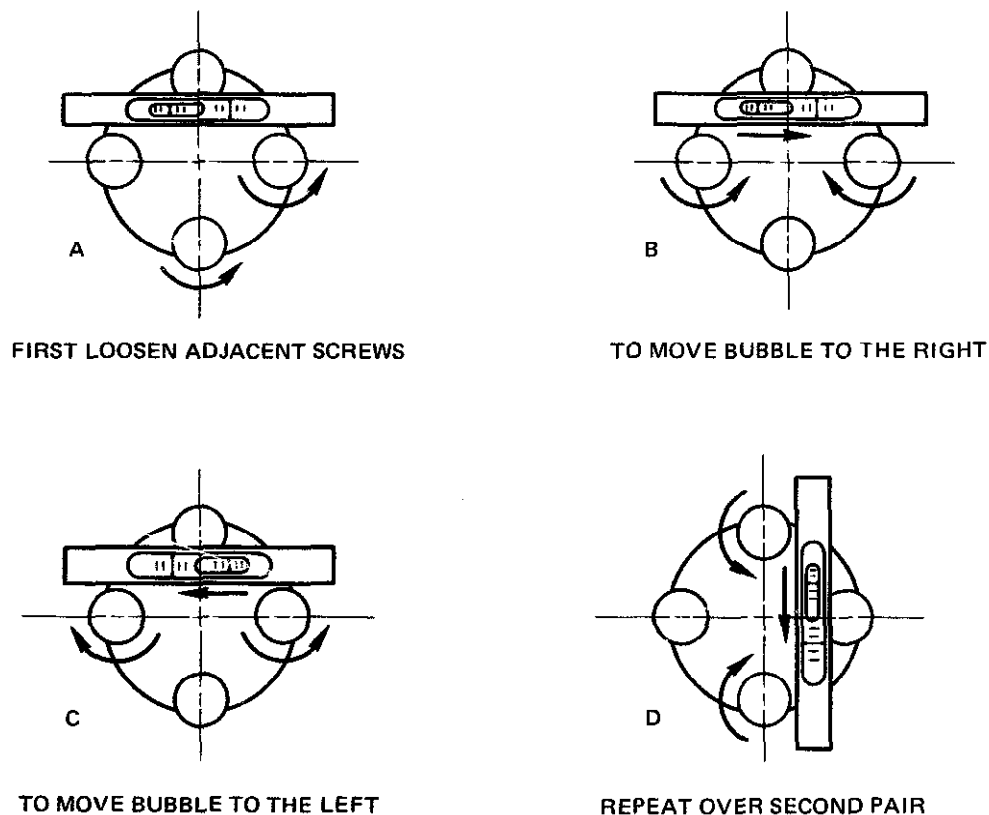

Fig. 5-27 Procedure for centering the bubble on the telescope level.
- a. Loosen two adjacent screws. See A, figure 5-27. This frees both pairs of opposite screws.
- b. Turn the telescope until it is lined up over a pair of opposite leveling screws (figure 5-27, B and C.)
- d. Turn the telescope 90 degrees. Repeat leveling over the other pair of screws. See D, figure 5-27.